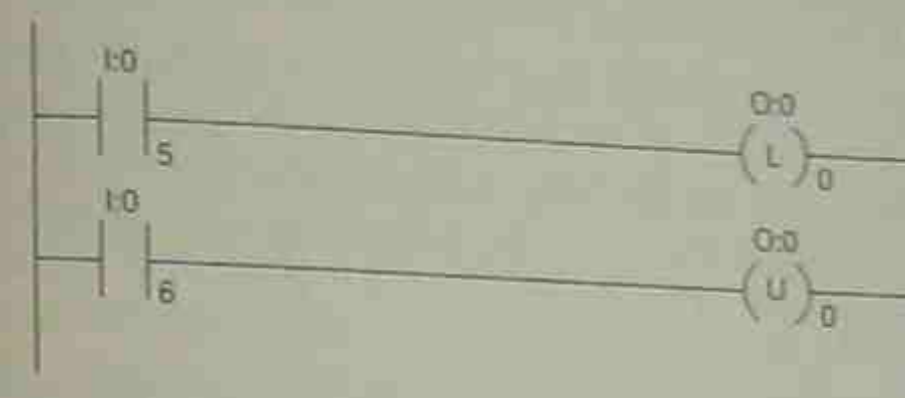

Figure 11-5 Programmed Latch and Unlatch Rungs
Figure 11-5 shows latch and unlatch rungs as they would be programmed using the Allen-Bradley MicroLogix PLCs.
The OTL instruction is a retentive output instruction that can be programmed to turn *ON* an output device. This instruction cannot turn an output device *OFF*. Once an output device has been turned *ON* by an OTL instruction, a OTU (output unlatch) instruction must be used to turn the device *OFF*. As these two instructions must be used in pairs, it follows that they will use the same address. Note in Figure 11-5 that both the latch (L) and unlatch (U) coils have the same address (O:0/0).